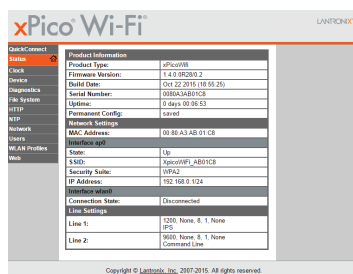

Figure 12: xPico WiFi Main Page
- The XPico WiFi main page will open. Click on Quick Connect at the top of the menu and select the WiFi network to be used (e.g. H88d3). See Figure 12.